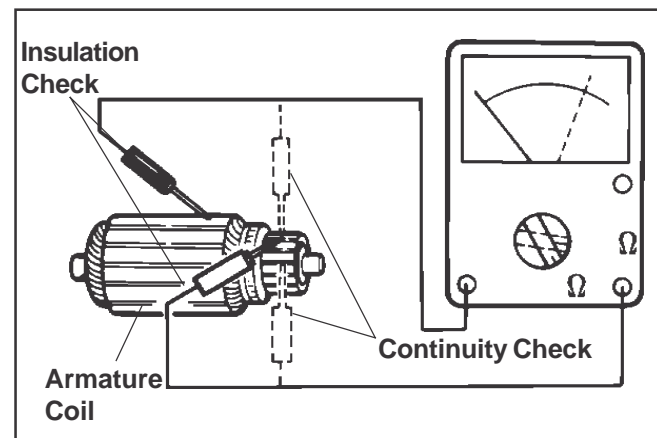

Figure 7-30. Checking Armature.
2. Use an ohmmeter set to the Rx1 scale. Touch the probes between two different segments of the commutator, and check for continuity. See Figure 7-30. Test all the segments. Continuity must exist between all or the armature is bad.
3. Check for continuity between the armature coil segments and the commutator segments. See Figure 7-30. There should be no continuity. If continuity exists between any two, the armature is bad.